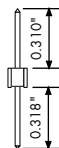

fig. 1: HDRMPL & HDRMPR header pin (to scale).
1. Identify each header and where it goes. There are two different headers: the longer — HDRMPL & HDRMPR, with 0.310" head x 0.318" tail— mate with the Control PCB (fig. 1).